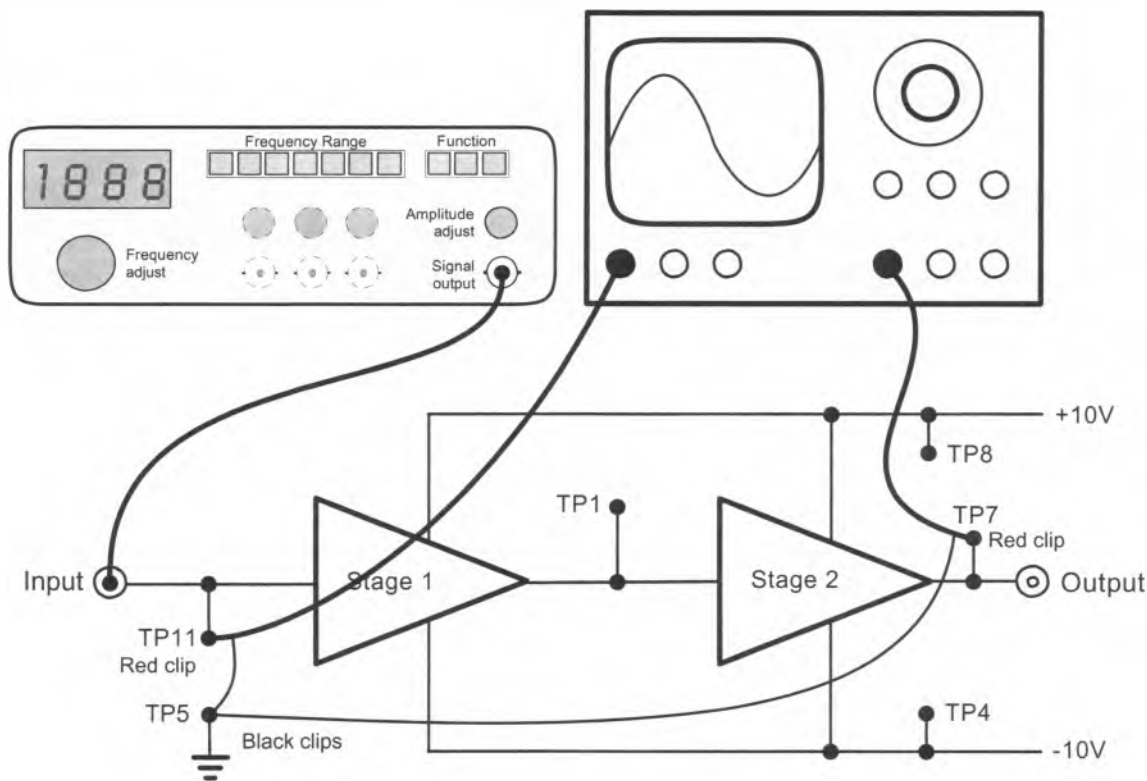

Figure 5
28. Connect the CRO's channel 1 to the input of the first amplifier stage (TP11) as shown in Figure 5 below.